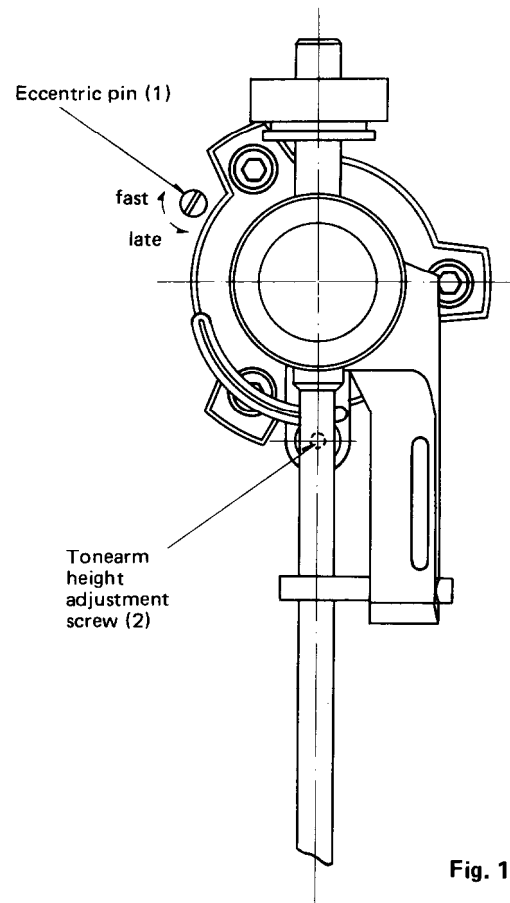
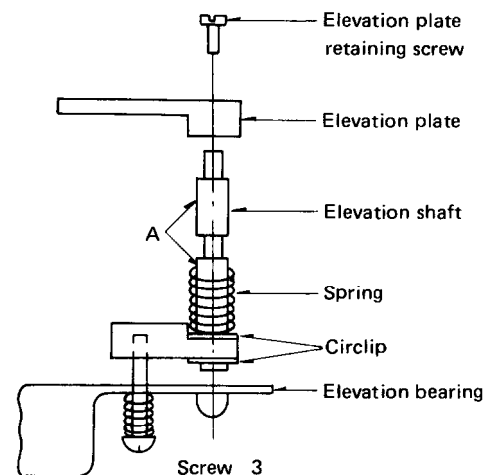

Fig. 1
Fig. 2
Auto-return position adjustment is made using the eccentric pin ① in Fig. 1.
Height adjustment is made using the lifter plate retaining screw ② in Fig. 1. Adjust the screw for 18 mm height between the stylus tip and the turntable platter. Turning screw ② clockwise lowers the tonearm counter-clockwise raises it : It is also possible to make the adjustment using screw ③ in Fig. 2. Turning the screw in raises the tonearm and backing it off lowers it. (Note: The tonearm height adjustment is performed simultaneously for auto-return and manual tonearm raising (by cue). Autoreturn and manual cue cannot be adjusted separately.)
- 1) Remove the elevation plate retaining screw in Fig. 2.